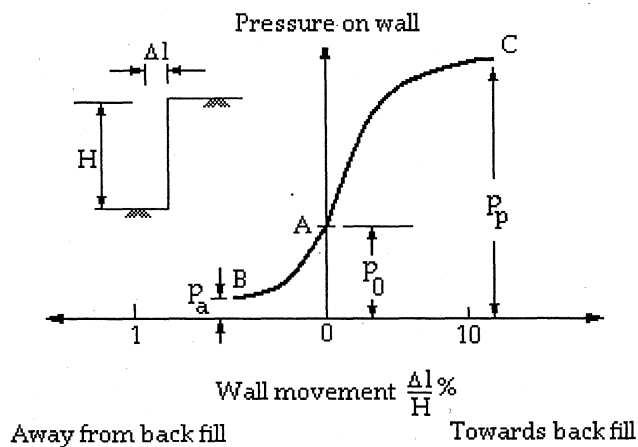

Figure 7A
- A. Figure 7A shows the variation of coefficient of lateral earth pressure due to inward and outward wall movements. Compare the three states of lateral stress described in the said figure. (5 points)